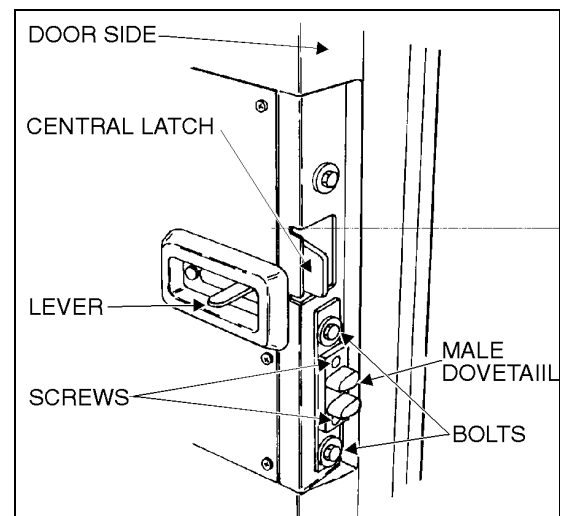

FIGURE 16: LATCH
- To adjust the male dovetail on L.H. side of the door, remove the two screws and loosen the two bolts. Slide the male dovetail toward the interior and lightly tighten the two bolts. Close the door slowly but firmly, then slowly open it, and tighten the two bolts. Fix dovetail to the door with the screws. See figure 16.